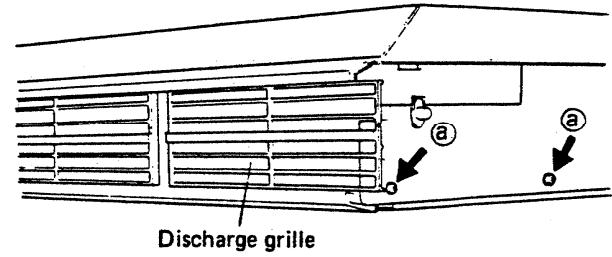

Fig. 8
- 5) Remove the four screws (a) at the lower part on both sides. Fig. 8